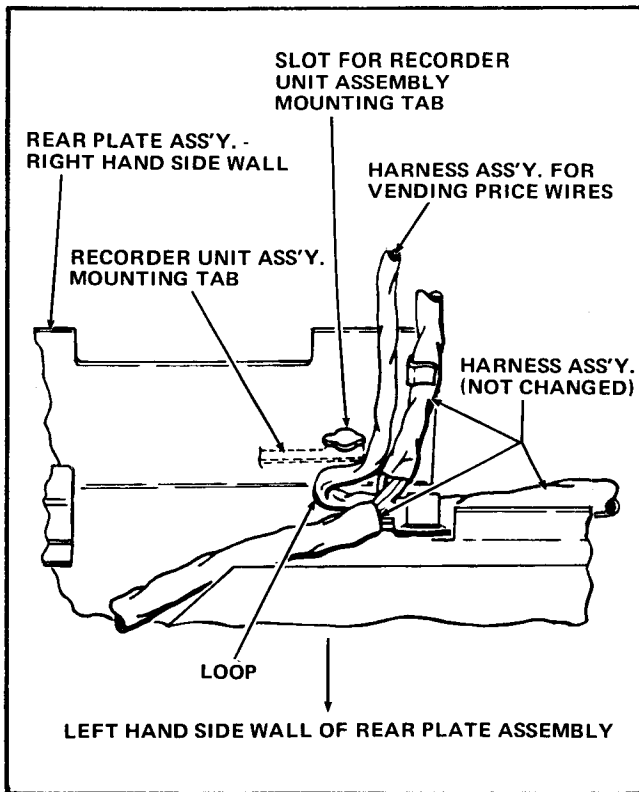

FIGURE 7
- 3. Form a Loop in the Harness Assembly just below the Recorder Unit Assembly mounting tab slot as shown in Figure 7. Hold the loop as flat as possible using a finger and route the free end of the Harness vertically alongside the Escrow Harness. The Loop may not stay in this position and may have to be formed again when the Recorder Unit Assembly is installed.
In step L-3, below, if the Coin Mechanism is an ACER 2500, ACER 2501, or an ACER 5202 with the Harness Assembly re-routed, the Vending Pricing Wires Harness Assembly should be as shown in Figure 7.